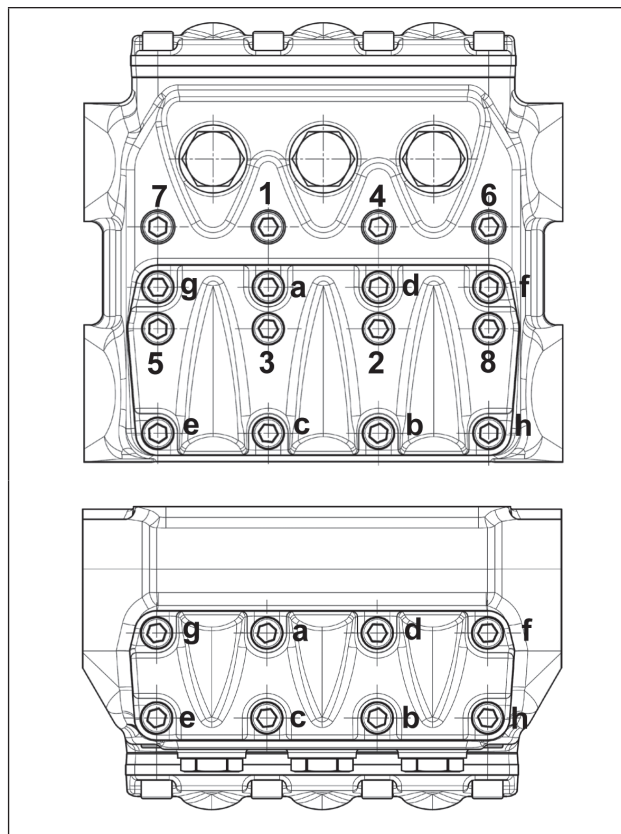

Fig. 47
* The con-rod cap fixing screws must be tightened simultaneously, respecting the phases indicated on page 22. ** The head fixing screws must be tightened by means of a torque wrench after lubricating the thread. *** The valve cover fixing screws must be tightened with a torque wrench, lubricating the threaded shank, respecting the order shown in the diagram in Fig. 47.